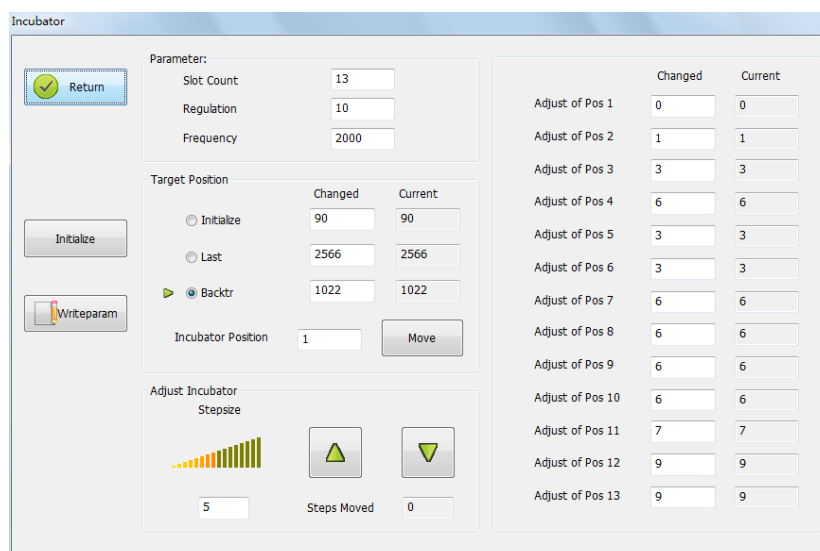

Figure A.7-1 [Incubator] Dialog
1. Click **<Initialize>** in **[Maglumi Service]** interface. Upon completion, click **<Incubator>** to open **[Incubator]** dialog. Select **Backtr** in **Target Position** (Figure A.7-1). Then click **<Return>** button to return to **[Maglumi Service]** interface.